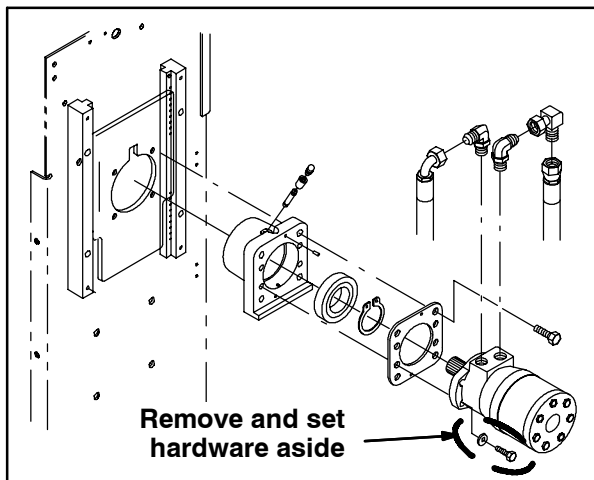

FIG. 7
8. Remove the four bolts from the conveyor motor and remove the conveyor motor from the conveyor assembly. Set the hardware aside. **Do Not** disconnect the hydraulic hoses from the conveyor motor. Set the conveyor motor aside in the radiator area. Refer to Fig. 7.